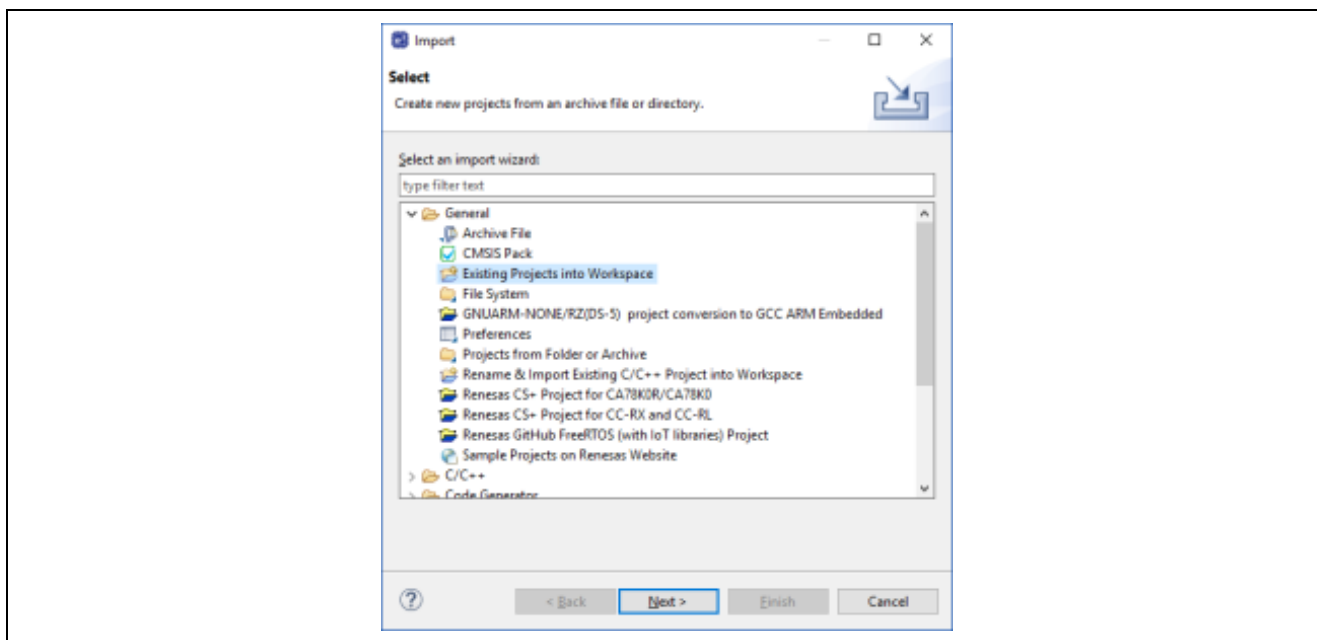

Figure 4-2. Import sample project (1)
4. Double-click **General** and select **Existing Projects into Workspace** as shown in Figure 4-2: